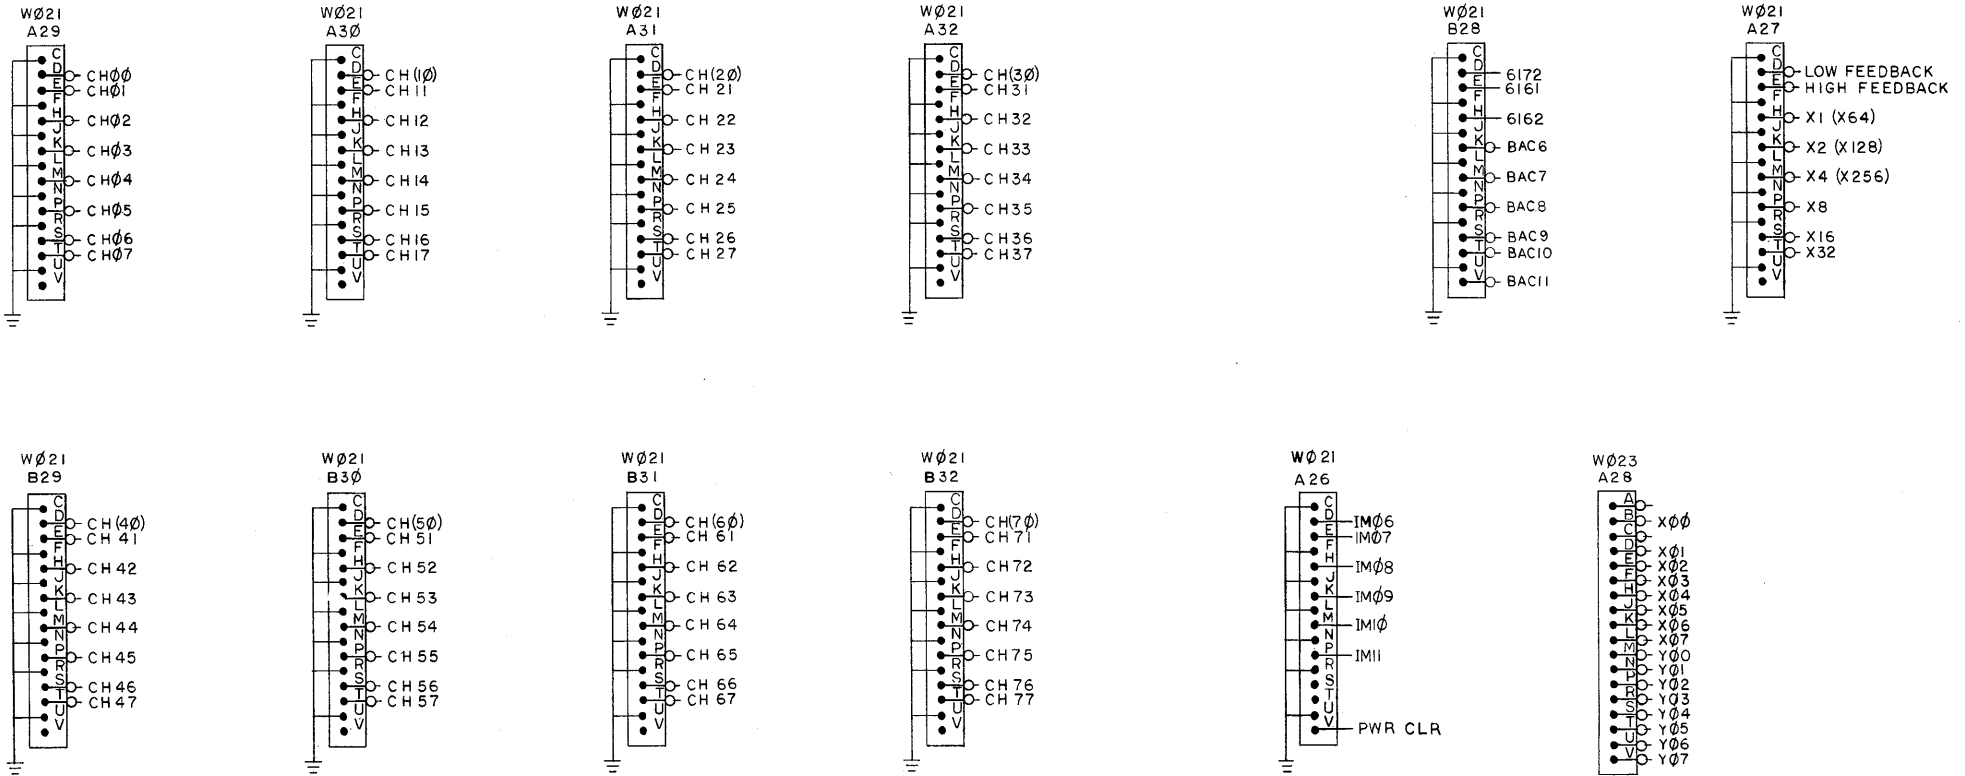

Figure 6-6 D-IC-AF16-0-6 Chrom to LOC Cable Interconnection Diagram
- Figure 6-6 Chrom to LOC Cable Interconnection Diagram (D-IC-AF16-0-6)